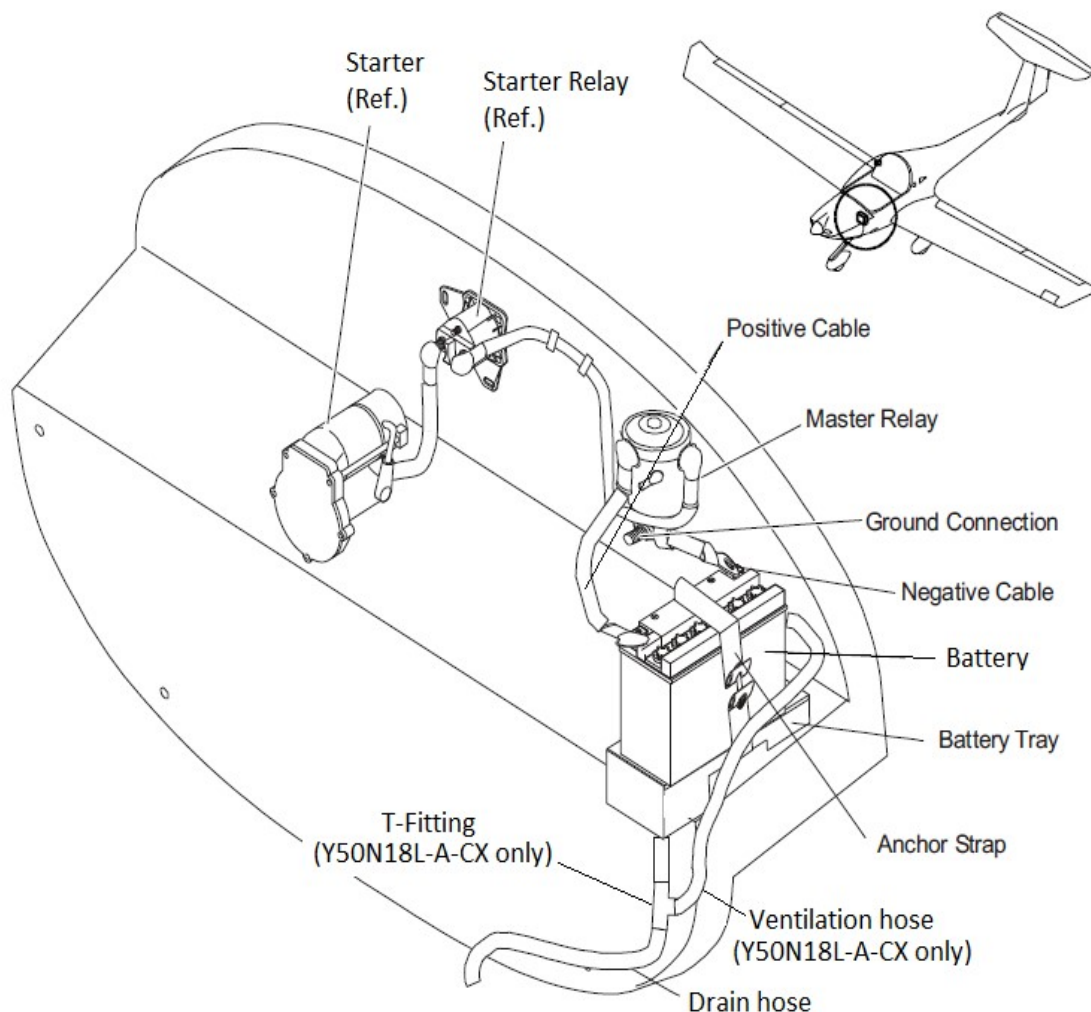

Figure 1 - Overview
2. Remove and discard the ventilation and drain hose, with T-fitting. Refer to Figure 1.